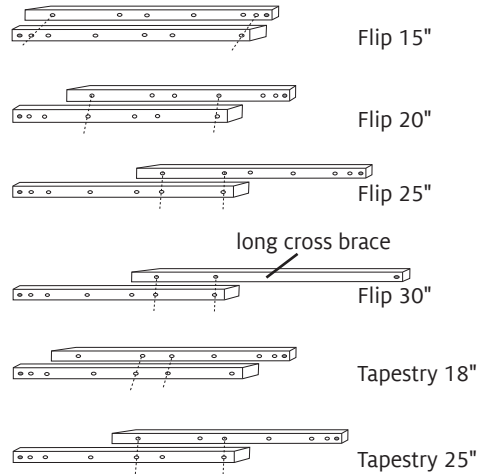

FIGURE 7: CROSS BRACE ALIGNMENT
- Locate the set of holes that are aligned in the cross braces for your loom (Figure 7).